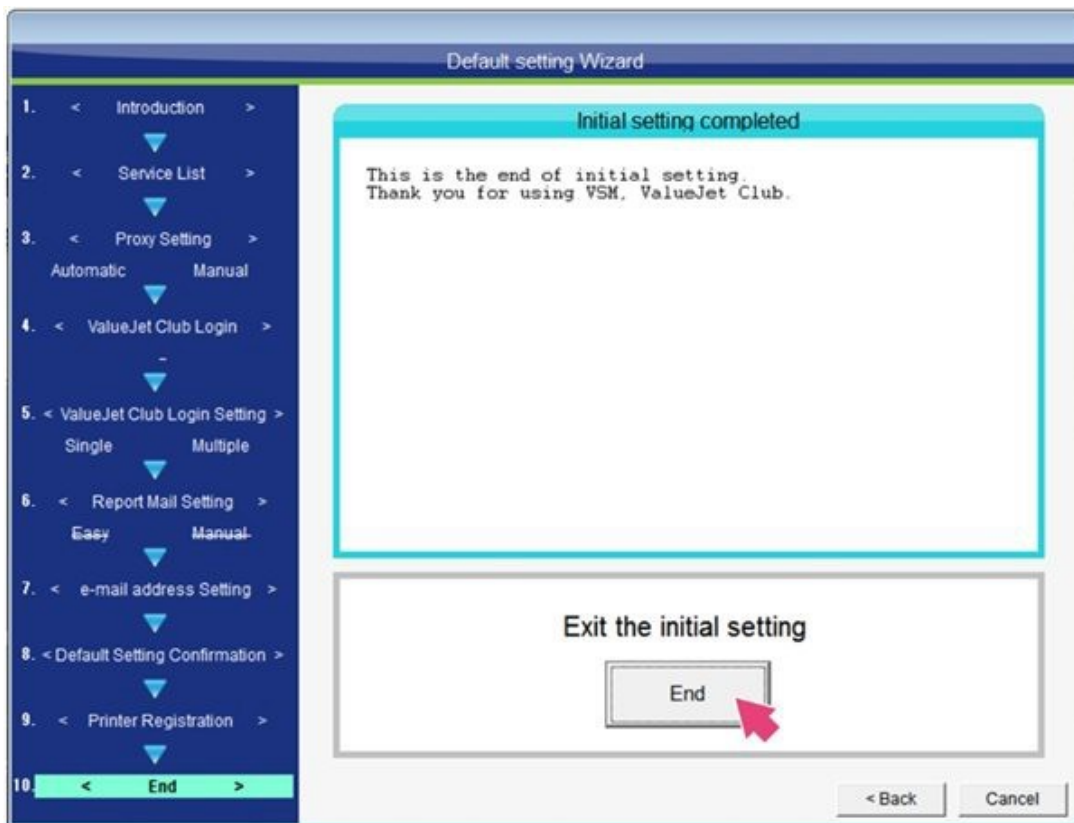

Figure 50
37. This is the end of the initial settings. Select **End**. See Figure 50.